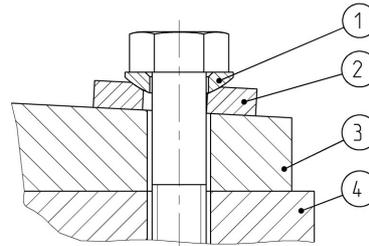

Fig.43: Spherical washer-conical seat combination
- ▶ For the mechanical mounting of the screw compressor on the screw compressor package, an angle-compensating support such as a spherical washer-conical seat combination according to DIN 6319 has to be used, refer to Figure 43, Page 168. This spherical washer-conical seat combination is delivered with the compressor.